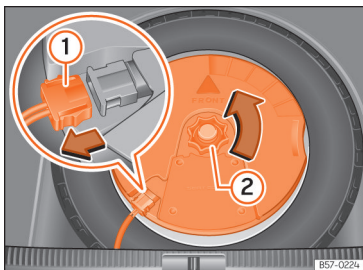

Fig. 236 In the boot: remove the subwoofer.
- Disconnect the subwoofer's speaker cable >>> Fig. 236 ①.
- Turn the securing wheel anti-clockwise >>> Fig. 236 ②.